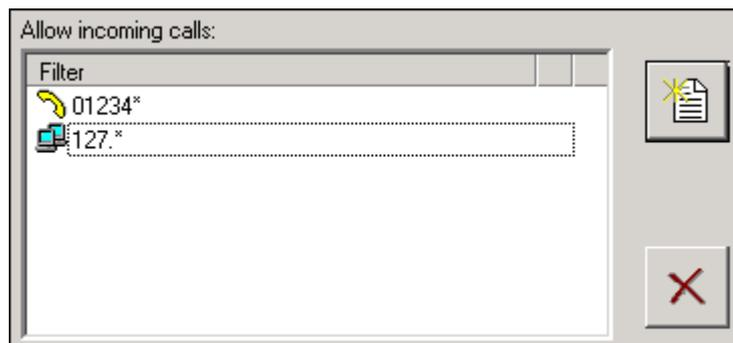

Fig. 17 *Allow incoming calls* filter list on the *Network* tab
2. Click the **Add** button  next to the filter list **Allow incoming calls** (see "Fig. 17", page 31).